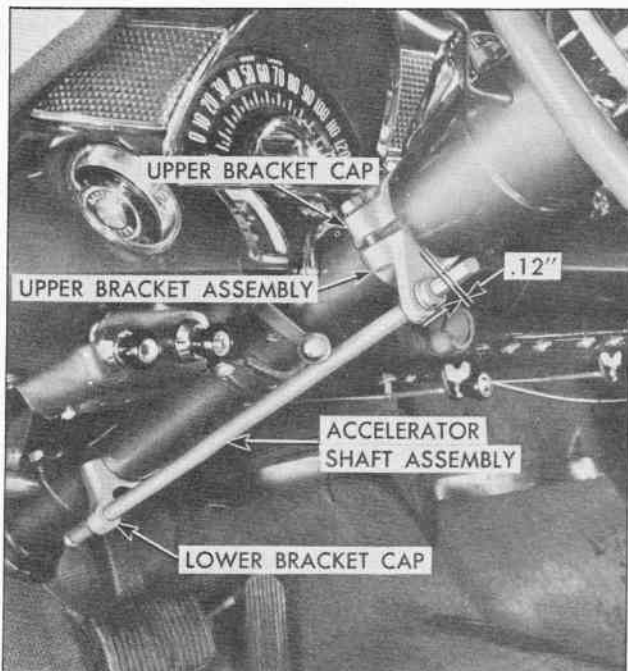

Fig. 2 Accelerator Shaft in Position on Steering Column
3. Locate upper bracket and cap (521121) on steering column approximately 1/8" from gearshift upper housing using short clamp bolts threaded finger tight (See Fig. 2).
4. Locate lower bracket cap (521136) over lower end of accelerator shaft on steering column as shown in Fig. 2).